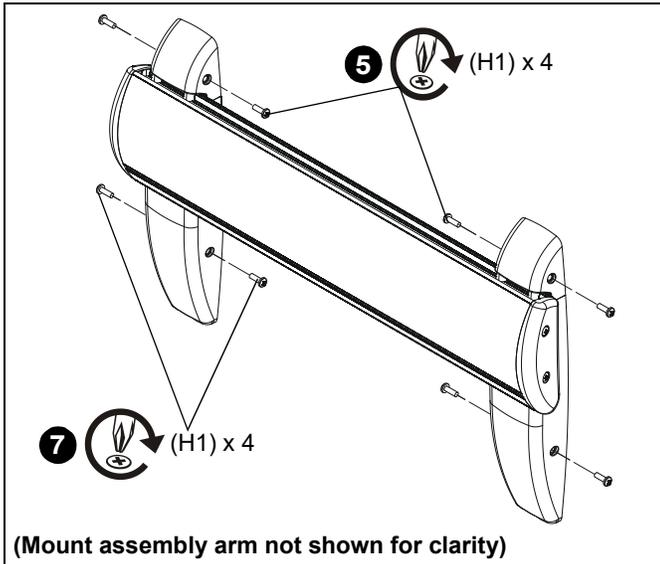

Figure 59
5. Secure wall bracket top covers (J) to wall bracket arms by installing four #8-32 x 1/2" Phillips pan machine screws (H1) through holes in covers and wall bracket. (See Figure 59)
7. Secure wall bracket bottom cover (K) to wall bracket arm by installing two #8-32 x 1/2" Phillips pan machine screws (H1) through holes in cover and wall bracket. (See Figure 59)